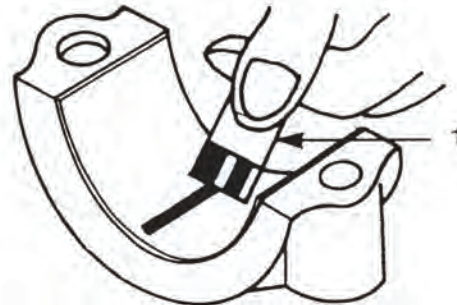

Figure 186
E. Compare the width of the flattened PLASTIGAGE to the graduation marks on the package (1, Figure 186). The mark that most closely matches the width of the flattened PLASTIGAGE will indicate the bearing oil clearance.